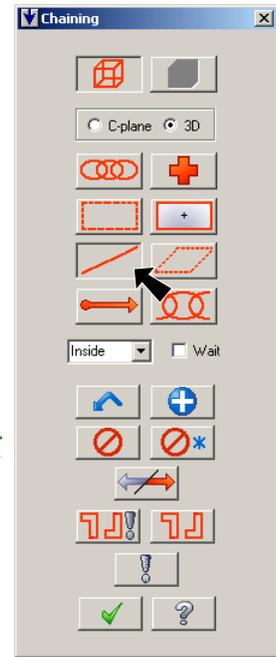

Fig. 15
Step 3. Click the **Single** in Chaining dialog box, **Fig. 15**.